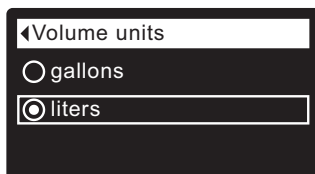

FIG. 57
5. Press the SELECT (O) button to display the Volume units menu (See Figure 57).
6. If the desired volume unit already has a dot next to it (See Figure 57), go to Step 7. Otherwise, press the DOWN (▼) or UP (▲) buttons to scroll to the other volume unit, then press SELECT (O) to choose it.
7. Press the SELECT (O) button. The display will go back to the User preferences menu.